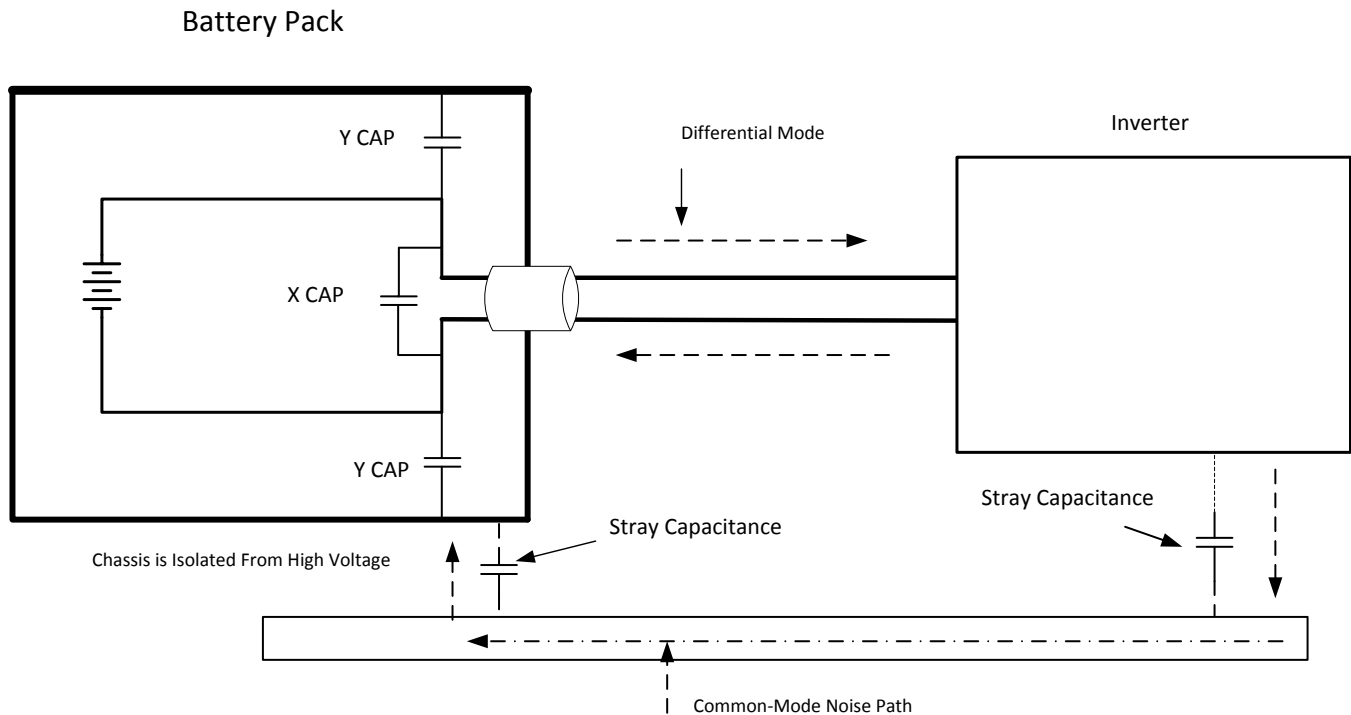

Figure 18. XY Caps
- Common mode noise goes out from both wires and returns back to the chassis through stray capacitance to ground. A Y capacitor is placed between the Chassis as Figure 18 illustrates.